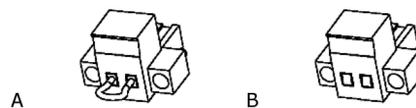

Fig. 17. Connector for the external EPO.
- Either by removing the female connector of the socket where it is inserted. This connector has a cable connected as a bridge that closes the circuit (see Fig. 17-A).
- Or by activating the unit's external button, which belongs to the user and is installed between the connector terminals (see Fig. 17-B). The connection on the button must be in the normally closed (NC) contact, so the circuit will open when it is activated.